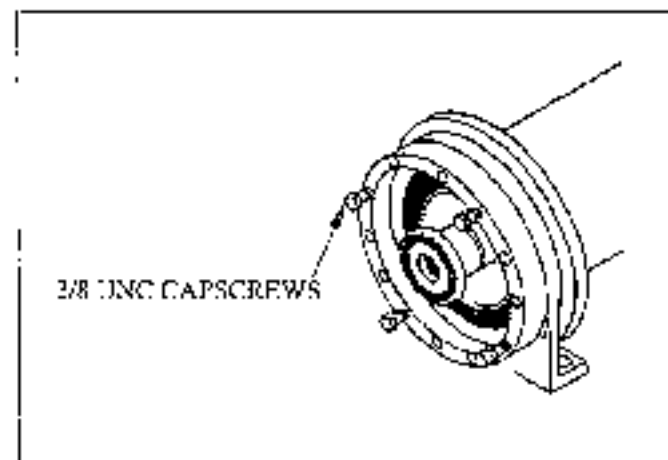

Figure 6
- (6) Remove the piston housing and piston using four 3/8 UNC capscrews as shown. See Figure 6.